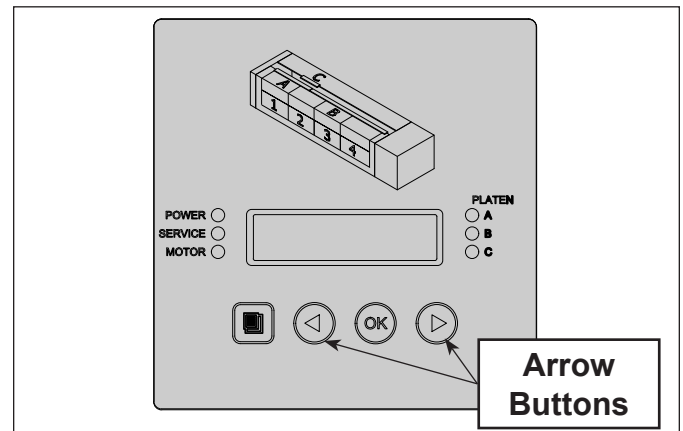

Figure 4. HEBT-5V Control Panel and Display
2. Use the **LEFT** and **RIGHT** arrow buttons (Figure 4) to scroll through the settings, which appear in the following order:
3. To change a setting, press the OK button and then use the **LEFT** and **RIGHT** arrow buttons to adjust as needed. Press the OK button again to save the changes. See Figure 4.